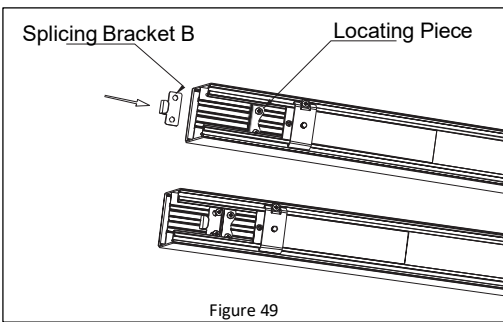

Figure 49
2. Slide the splicing bracket B into locating piece on the fixtures, then secure it with the supplied screws. See **Figure 49**.